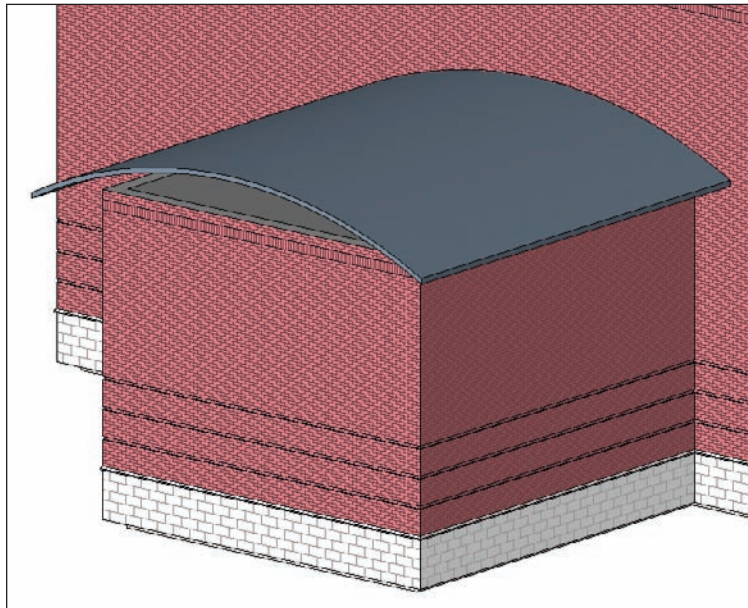

FIGURE 7.57 The now completed canopy
4. Your roof should look like Figure 7.57. Select the three walls below the roof.